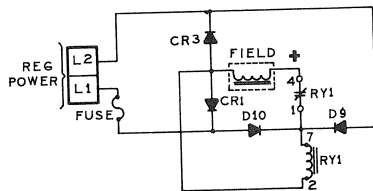

Figure 2-15 Residual Voltage Flashing Circuit
2.2.1 The relay (RY1), contains two normally closed contacts. The relay can be used for either automatic voltage buildup from generator residual or as a flashing disconnect relay in applications where external field flashing is used. (See figures 2-15, 2-16, 6-3 and 6-4.)
a. Automatic Voltage Buildup from Generator Residual -- Refer to figure 2-15. Normally closed contacts provide a current path around the control rectifiers (SCR1 and SCR2) to allow the generator residual voltage to be converted to DC by diodes D9, D10, CR1, CR2 and applied to the exciter field. When the generator voltage reaches approximately 75% of rated, the relay pulls in allowing the control rectifiers to regulate the generator output voltage. Full wave rectified voltage for the coil of flashing relay RY1 is provided by diodes D9 and D10.